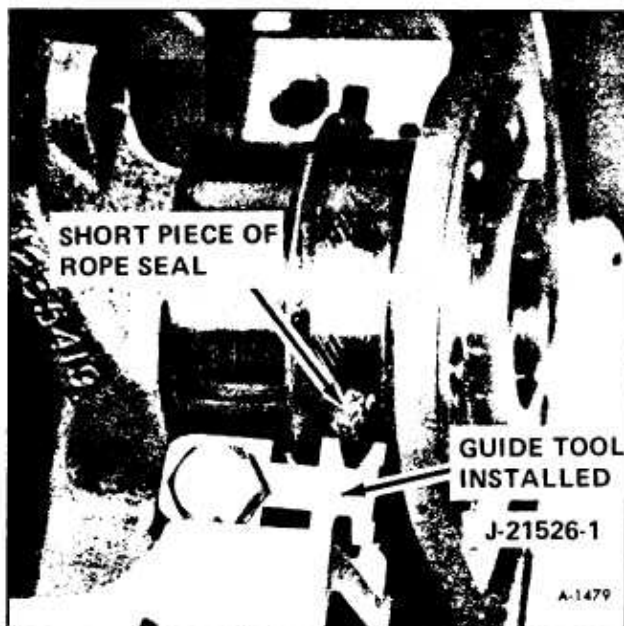
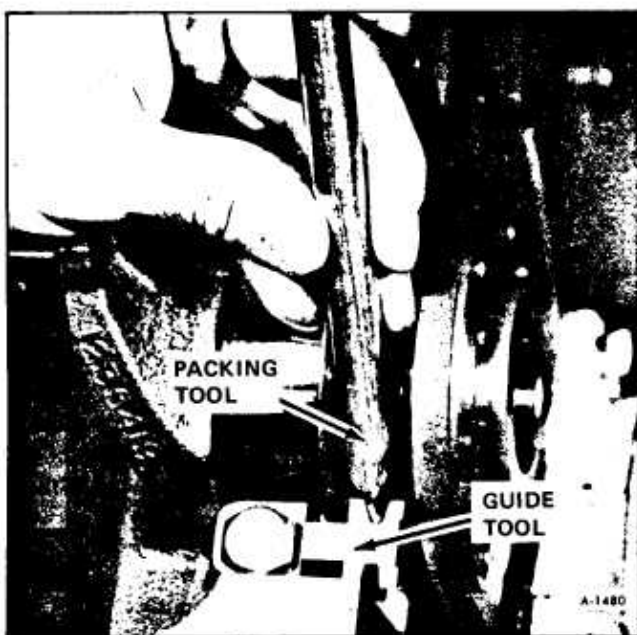

Figure 68-Guide Tool Installed
Figure 69—Packing Seal Into Guide and Cylinder Block
6. Work these two pieces of seal into the cylinder block (one piece on each side) with two small screwdrivers. Use guide tool J-21526-1 as shown in Figure 68. Using packing tool, pack these short pieces up into the block. See Figure 69.